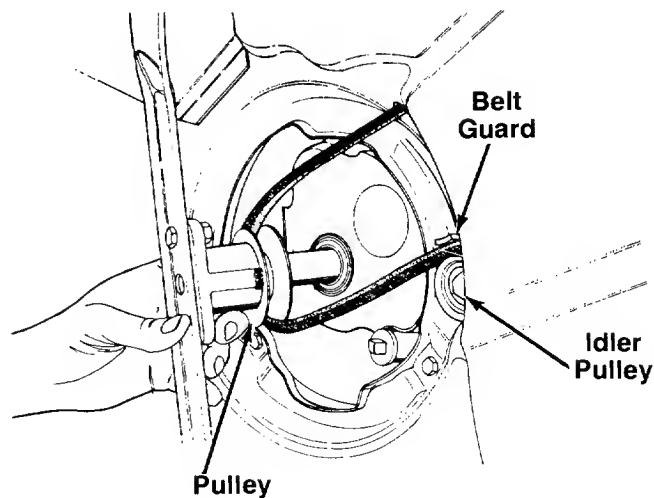

FIGURE 31.
8. Remove the belt from between the idler pulley and the belt guard on the idler pulley bracket. Refer to figure 31.
- C. Release the idler pulley so it falls down into position. Slide the belt in between the idler pulley and the belt guard on the idler pulley bracket as shown in figure 31.